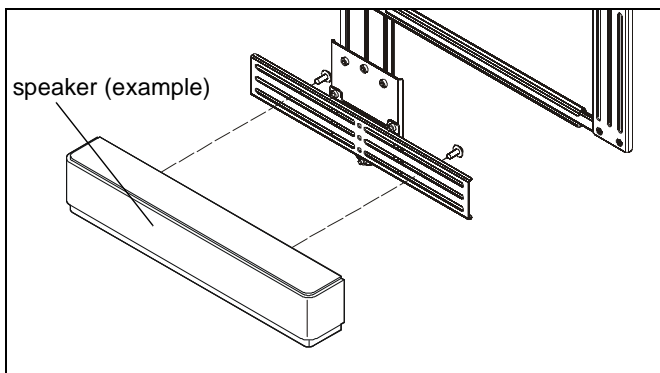

Figure 10
1. Attach center speaker to center speaker bracket (B) using appropriate hardware (not provided). (See Figure 10)